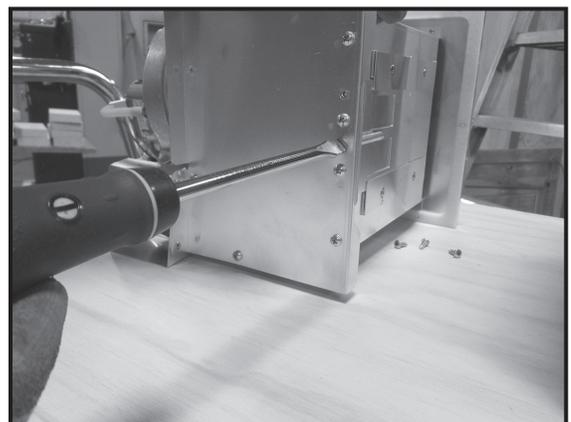

Figure 3.16
8. To open the baffle, turn the adjustment bolt counter clockwise. See Figure 3.16.